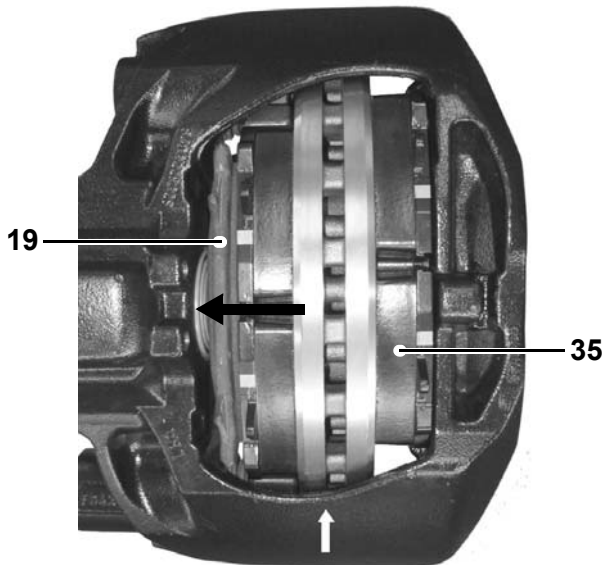
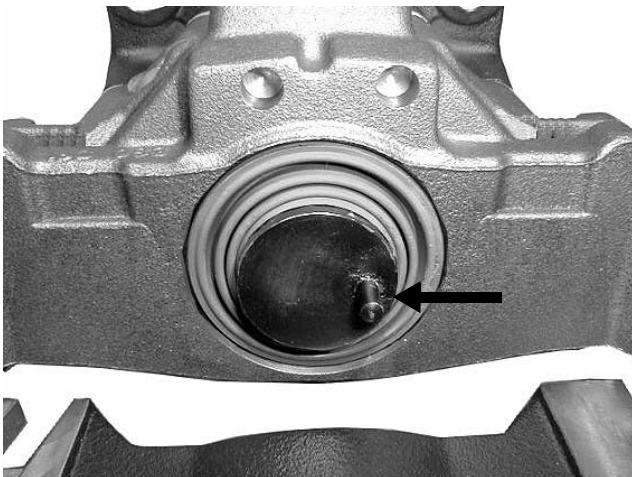

Fig. 14
Fig. 19
When re-adjusting push back the spreader plate (19) by hand to ensure (fig. 14, see arrow) that the pin as torsion lock (see fig. 19) for the adjusting screw does not slip out of its groove. Otherwise the adjuster screw will turn and thereby damage its gaiter!